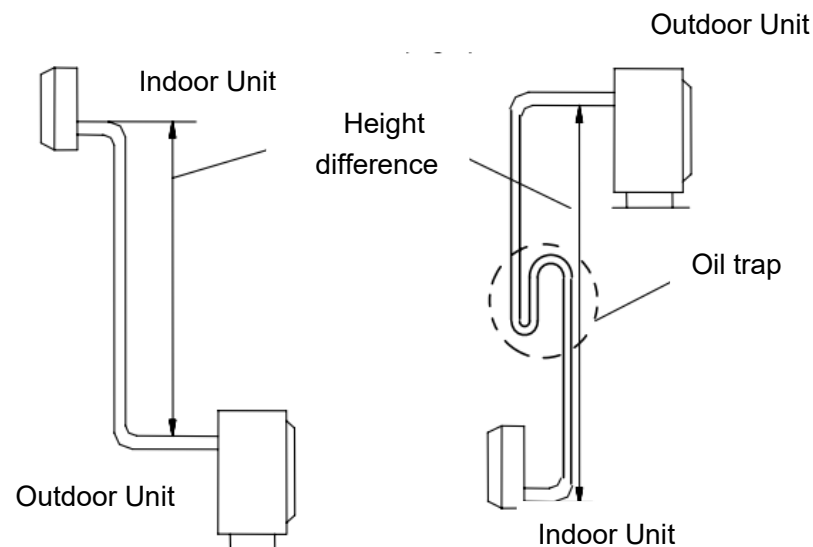

Fig 3
- If the installation position of the outdoor unit is higher than indoor unit and the tubing is longer than 33ft, added an oil trap on the gas tubing for every 26ft. (Fig 3)